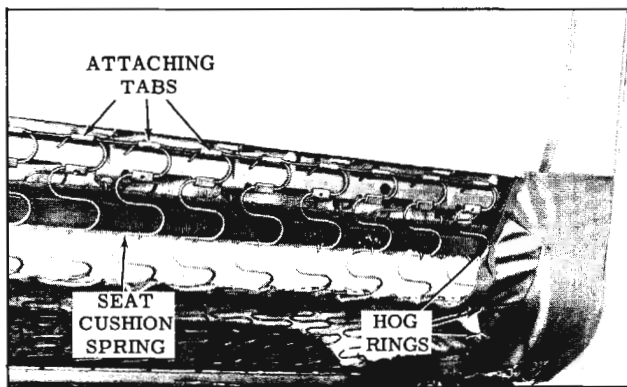

Fig. 16-310 Front Seat Cushion Spring Attachment
3. Raise trim and remove cardboard breakover foundation to expose seat cushion spring attachment to seat back frame along rear of seat and hog rings securing ends of seat back trim to seat bottom frame. (Fig. 16-310)
5. Bend open tabs securing seat cushion spring assembly to seat back frame and carefully disengage springs from tabs. (Fig. 16-310)